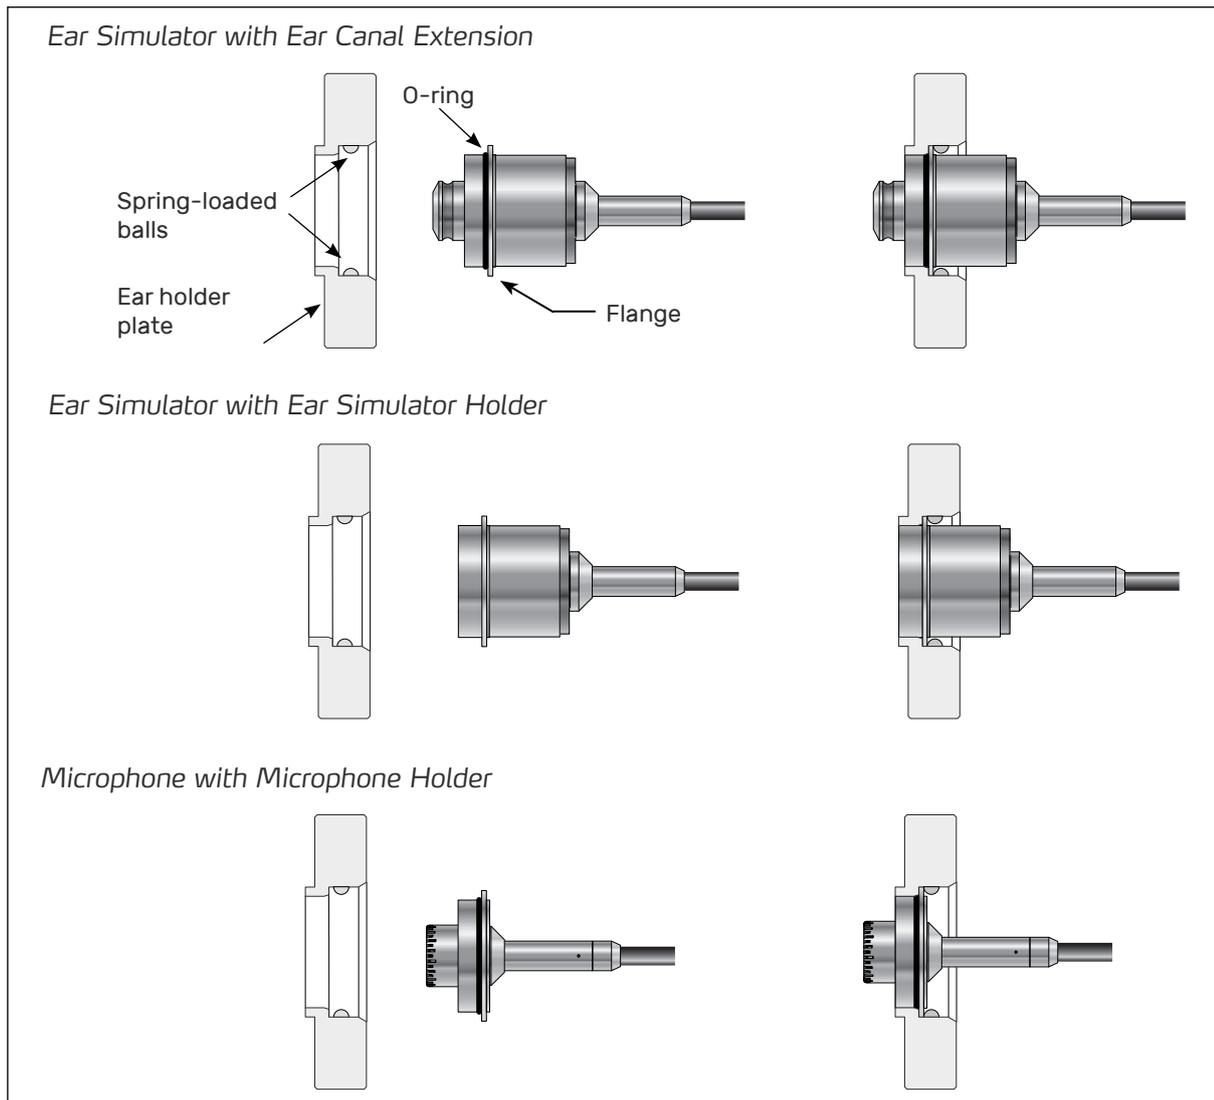
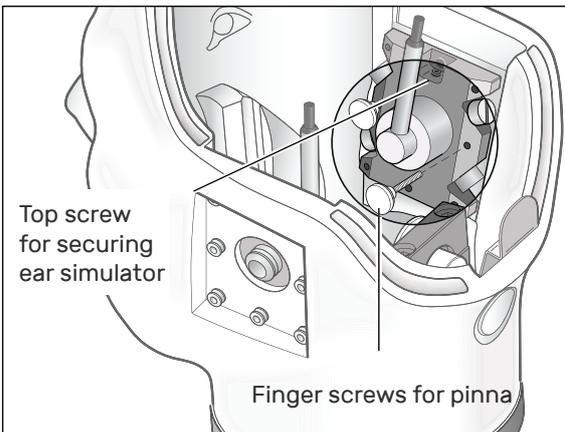
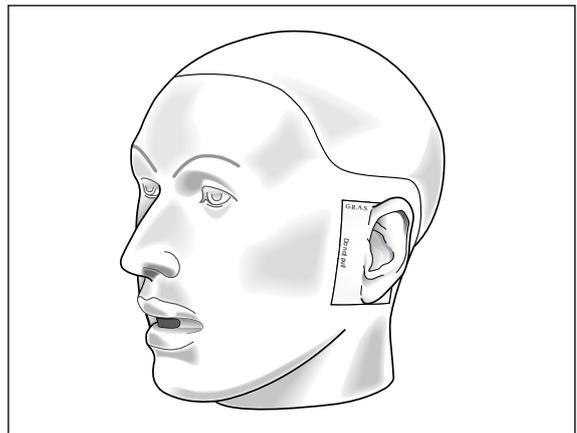

Fig. 34. KEMAR's snap lock mechanism for mounting of ear canal extension, microphone and ear simulator holder for the anthropometric pinna.
Fig. 49. Screw for securing the ear simulator and the anthropometric ear.
Fig. 50. KEMAR with anthropometric pinna.
Ear simulators and microphones are mounted in KEMAR's head with a snap lock mechanism. Four spring-loaded balls in KEMAR's ear holder plates locks the flange of the ear canal extension or microphone holder and keeps them locked in position. An O-ring on the front of the flange of the ear canal extension/microphone holder ensures a tight fit. The mechanism is illustrated in Fig. 34 below. Because of the snap lock mechanism, it is possible to remove ear simulator or microphone set without further disassembly. The ear simulator holder is without O-ring.
5. Mount the Ear Simulator in the Ear Holder Plate by pushing it until secured by the snap-locking mechanism. (The snap-locking mechanism is explained in Fig. 34 on page 54). Tighten the top screw to prevent the ear simulator from popping out during the next steps. (Fig. 49)
7. Mount the two finger screws and tighten them, using only finger force. While tightening the finger screws, press the ear against KEMAR's head. (Fig. 49 and Fig. 50)